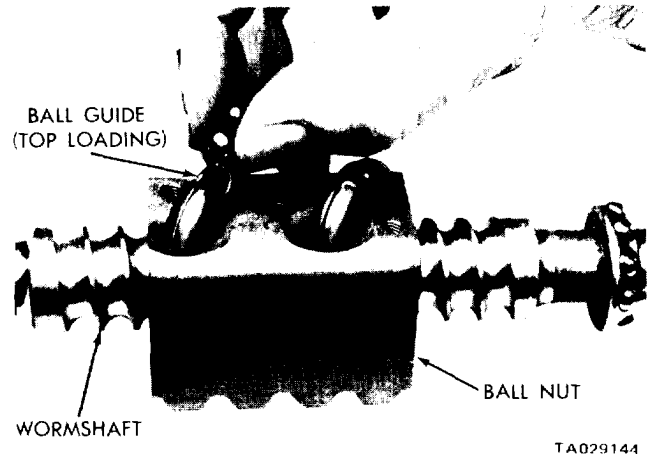

Figure 21-6. Filling Ball Guide and Circuit (Top-Loading Type).
b. Top-Loading Style Ball Guide. Refer to figure 21-6.
(1) Slip the ball nut over the wormshaft with the ball guide holes facing upward, and the shallow end of the ball nut teeth toward the left as viewed from the steering wheel position. Align the grooves in the worm and nut by sighting through the ball guide holes.
(2) Place two ball guide halves together and insert them into the upper circuit in the ball nut. Place the remaining two guides together and insert them in the lower circuit.